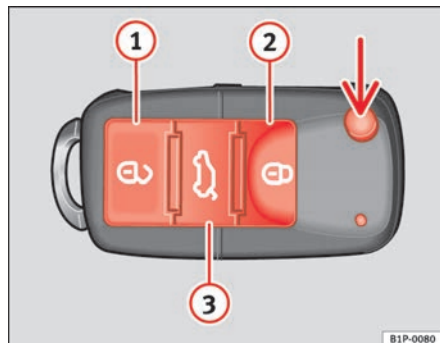

Fig. 63 Assignment of buttons on the remote control key
Using the button \Rightarrow fig. 63 (arrow) on the control, the key shaft is released.
Unlocking the vehicle \Rightarrow fig. 63 **1**. The doors and the tailgate are unlocked.
Locking the vehicle \Rightarrow fig. 63 **2**.
Unlocking the tailgate. Press the button \Rightarrow fig. 63 **3** until all indicators on the vehicle briefly flash. When the unlocking button \Rightarrow fig. 63 **3** is pressed, 2 minutes remain for opening the door. Once this time has passed, it will lock once more.
Also, the battery indicator on the key \Rightarrow fig. 63, will flash.
When the button \Rightarrow fig. 63 **1** is pressed once the driver's door is unlocked, all others remain locked.
- Lock the vehicle using the driver side door lock with the remote control key ⇒ page 100, fig. 63.